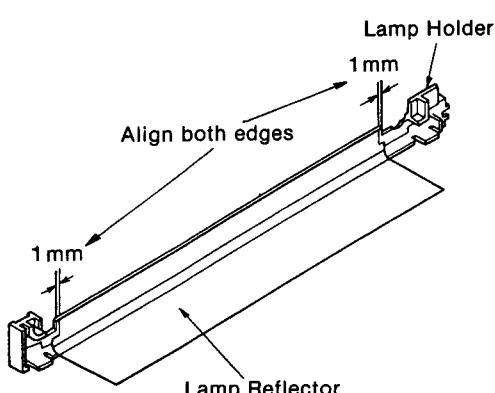

Figure 36
- (4) Stick the backlight lamp reflector to the lamp holder as shown in Figure 36.